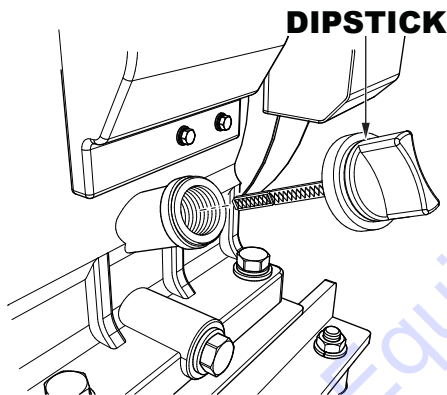

Figure 5. Engine Oil Dipstick Removal
2. Remove the engine oil dipstick from the engine oil filler hole (Figure 5) and wipe it clean.